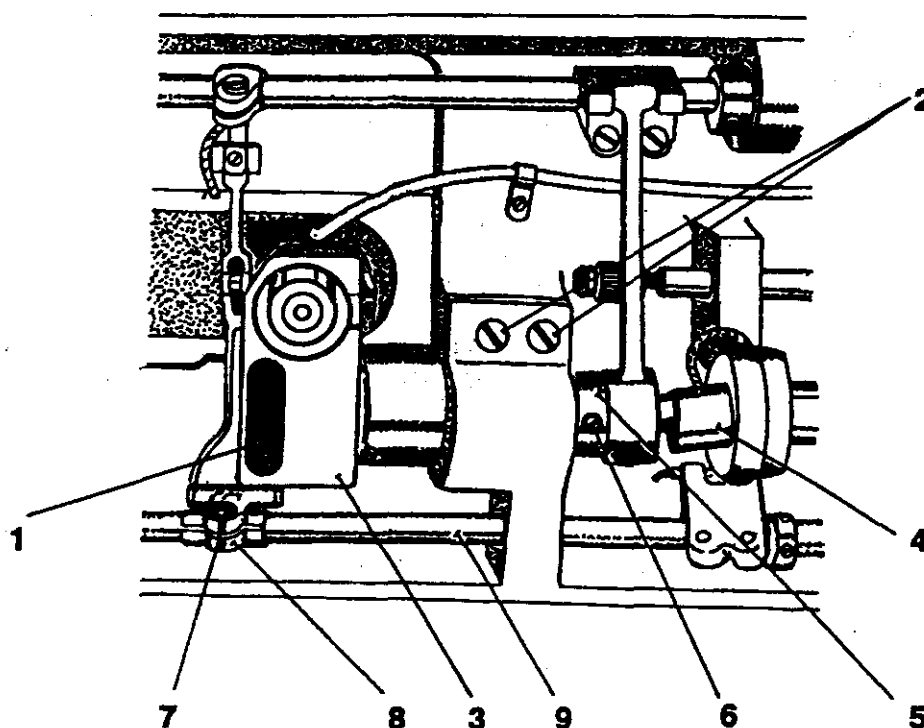
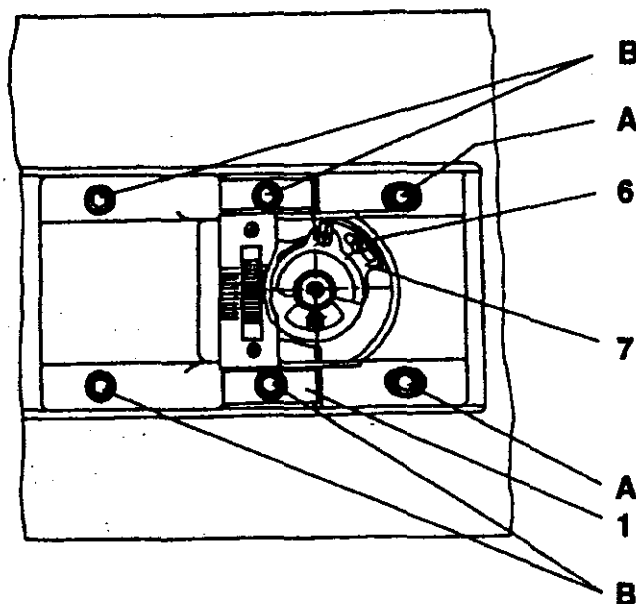

Fig. 11
Fig. 12
9. To adjust the hook course (Fig. 11)
10. To adjust opening hook (Fig. 12)
11. To adjust the distance between the hook point and the needle (Figs. 11, 12)
Loosen the two screws (2, Fig. 11) in the bed plate that fix the gear box (3). Remove the plug (1) outside the gear box. Then loosen the two screws in the gear box that fix the cog-wheel to the lower shaft and, finally, the two screws (A, Fig. 12) fixing the hook post bed. Then shift the gear box and the post bed of the hook so to obtain the distance not larger than 0.1 mm between the hook point and the needle which should touch lightly the hook guard, and retighten all the screws mentioned above. The plug (1, Fig. 11) is mounted into the gear box last.